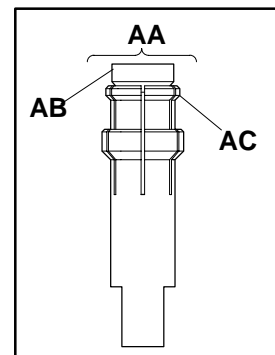
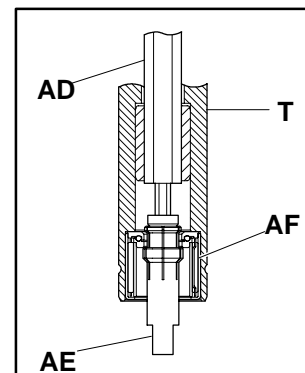

Figure 12: Bearing Removal Tool
Figure 13
1. Make sure that the shoulder (AC of Figure 12) on the bearing removal tool is completely closed. If it is slightly open it may not fit into the bearing (AF of Figure 13). Use the hex key wrench extension tool 25-08 (AD) and loosen the tapered screw (AB of Figure 12) while compressing the flare (AC) inward to make sure that the tool is completely closed. (All part numbers are provided in the Tool Kit 2500M.)
2. Insert bearing removal tool (AE of Figure 13) into the pulley (T) through bearing (AF).